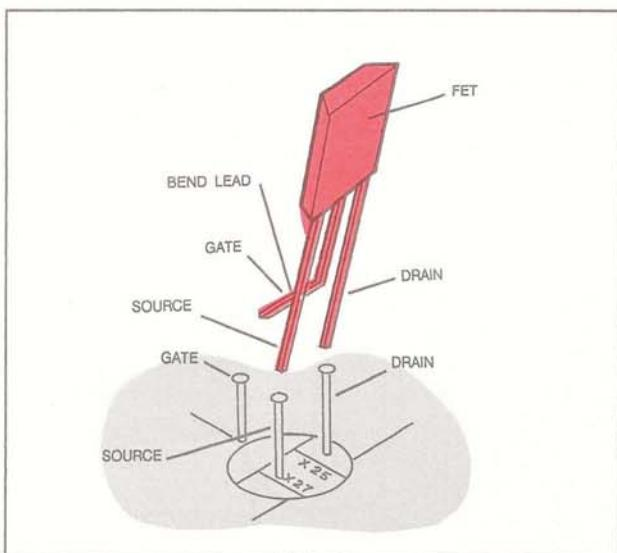

FIG. 40
7. Tin the leads of the following transistors and solder them into the circuit, observing proper lead positioning (See Fig. 40 for lead identification information about the FET transistor).